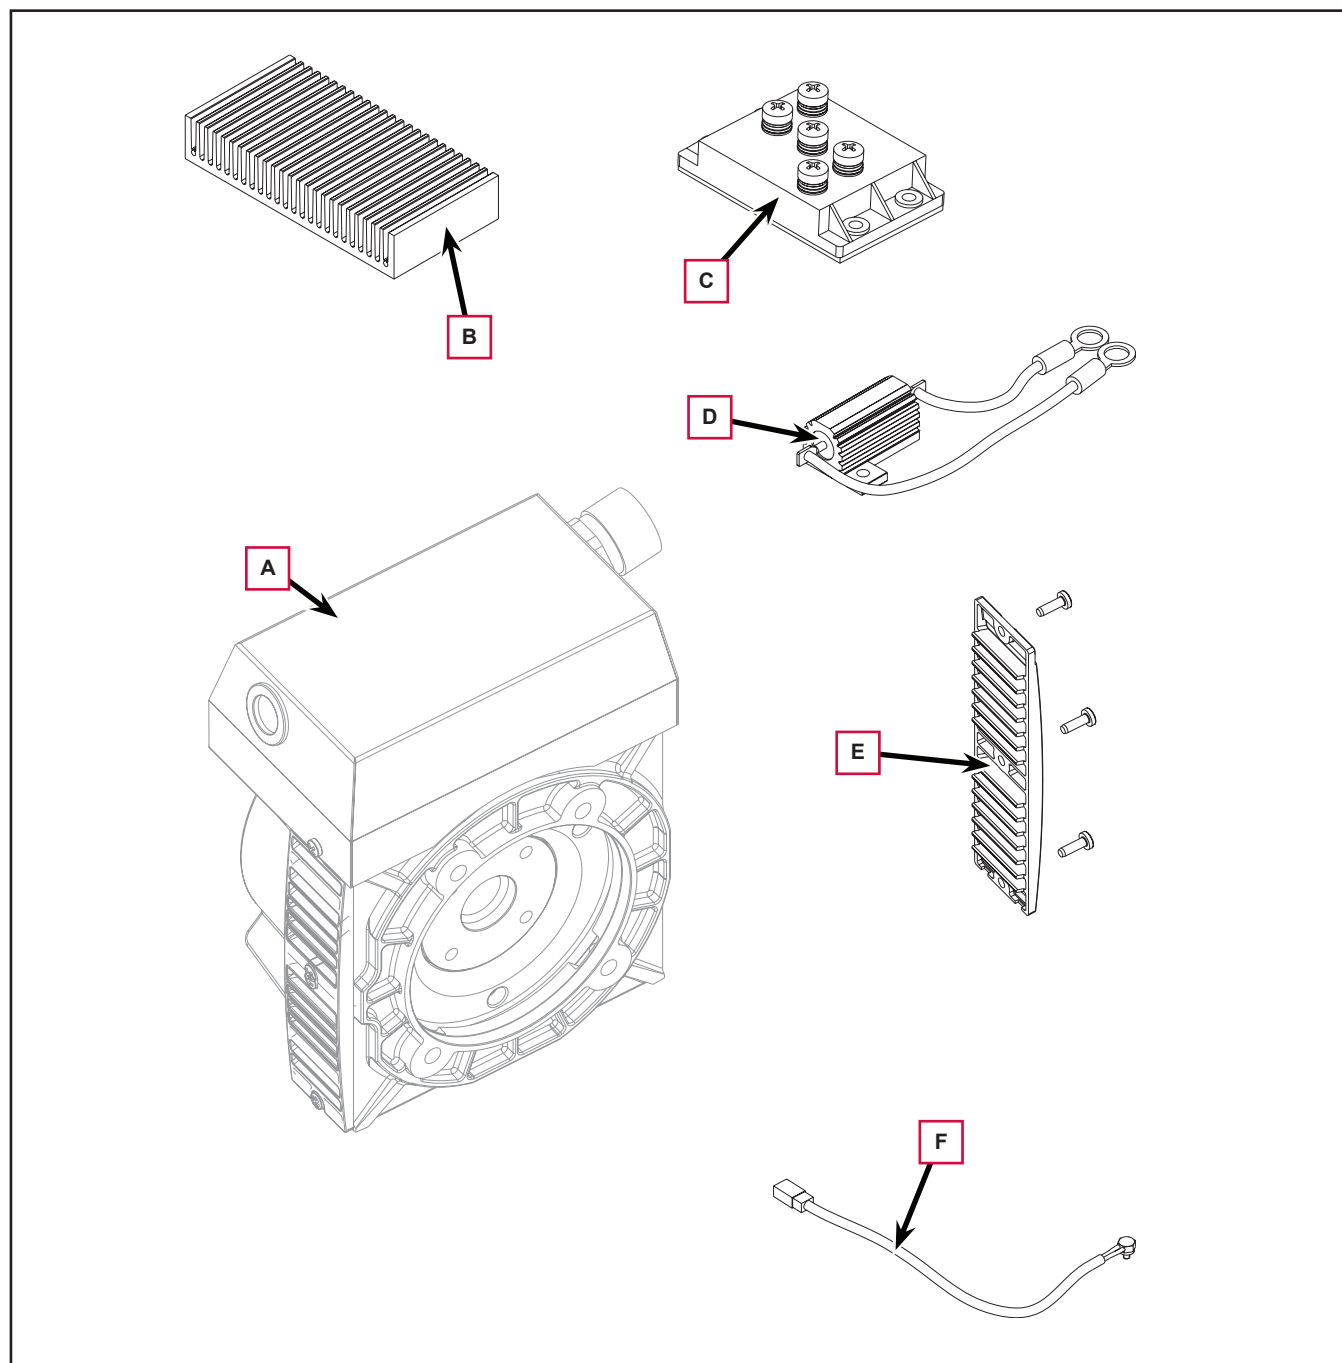

Figure 25
6. Disconnect the engine harness (B) electrical connections (A, Figure 25).
7. Disconnect the electrical connections (C) and (D) from the starter motor (E).
8. Disconnect the engine electrical connections (F) and (G).